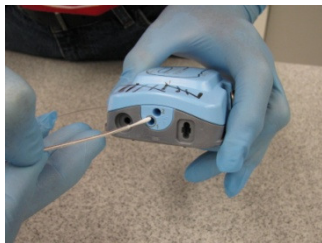

Figure 2
5. **Slowly insert the swab end into the channel you want to test** do not force. (if resistance to the swab, stop and pull back and get the smaller diameter swab) **If testing a DaVinci® robotic arm channel push the swab into main flush port marked 1 all the way in until it stops at the tip of the channel. Do this one (1) time and pull out slowly making sure the swab does not touch any surface before it is place in the correct vial for testing. – Figure 2 and 3.**